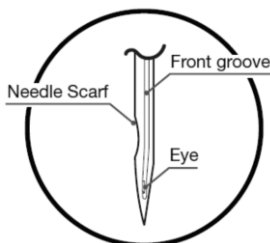

Figure 98
6. Ensure the big groove of the needle faces completely forward and the scarf of the needle is facing the back as you insert the needle into the machine. See Figure 98.